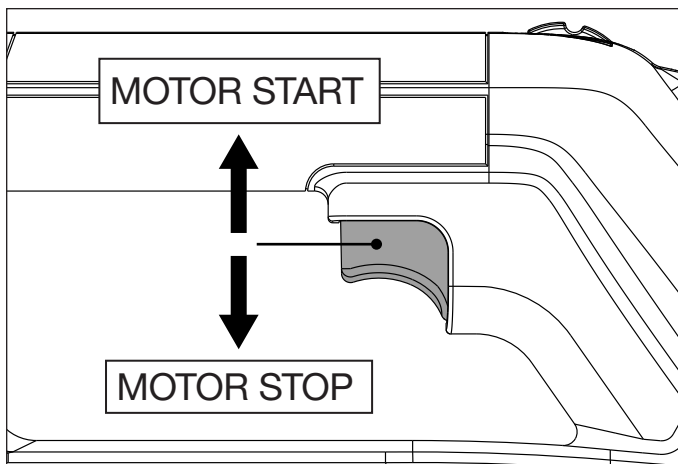
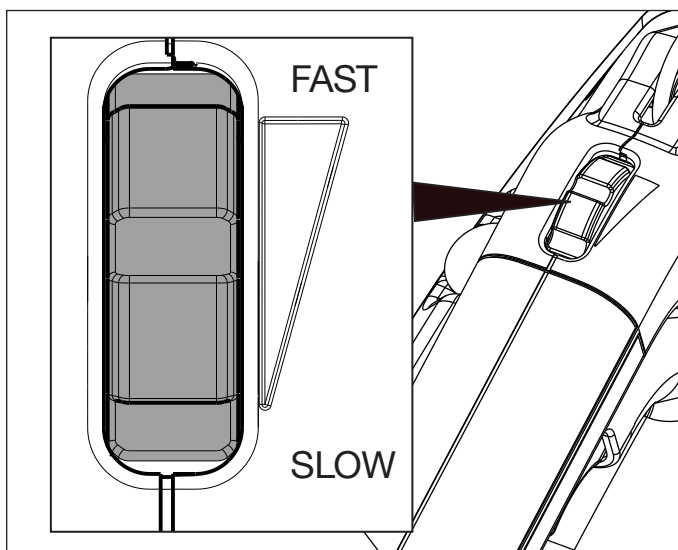

Figure 9: Trigger Switch Operation
Figure 10: Motor Speed Control Thumbwheel
A trigger switch is used to control the pump motor. See Figure 9.
1. Be sure that the pump power switch is ON (I).
2. To start the pump motor, firmly grasp the carrying handle and pull the trigger switch upward. To run the motor faster, roll the thumbwheel forward. To run the motor slower, roll the thumbwheel backward. See Figure 9 and Figure 10.
- The motor speed can be adjusted as needed by using the thumbwheel on the pump. Roll the thumbwheel forward to run the motor faster. Roll the thumbwheel backward to run the motor slower. See Figure 10.